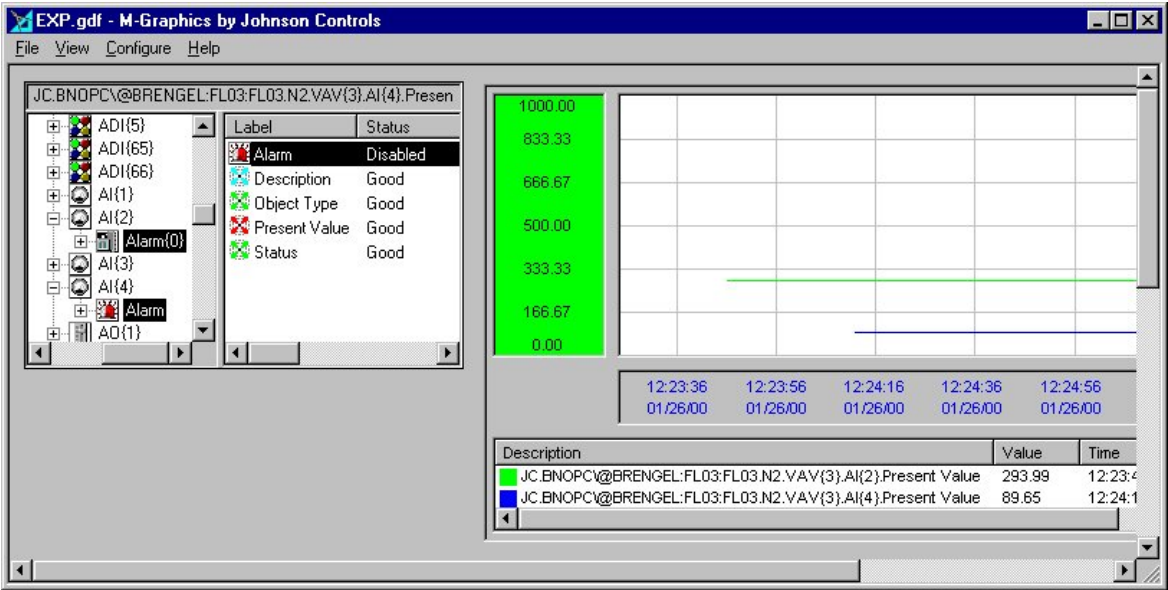

Figure 7-2: Item from M-Explorer in TWXView32 in Runtime Mode
4. In M-Explorer, click and hold the left mouse button on a leaf item to select it, move the mouse to drag the item to TWXView32, then release the mouse button (Figure 7-2).